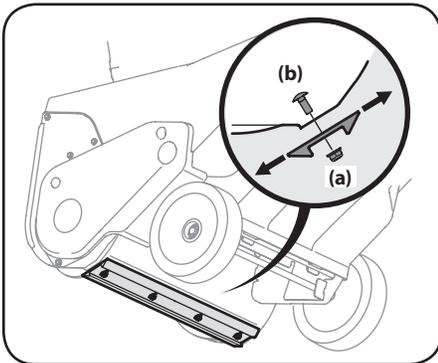

Figure 4-2
- Loosen the four flange lock nuts (a) and carriage screws (b) which secure the shave plate to the housing. See Figure 4-2. Move the shave plate to the desired position and retighten the flange lock nuts (a) and carriage screws (b) securely.
4. Remove the four carriage screws (b) and flange lock nuts (a) which attach it to the snow blower housing. See Figure 4-2.